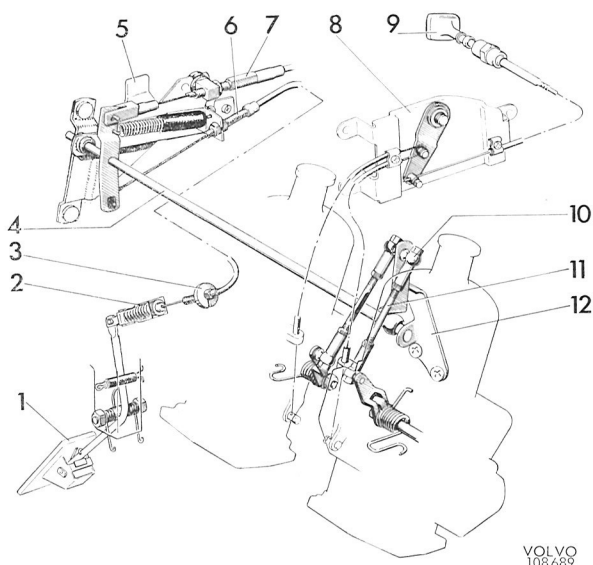
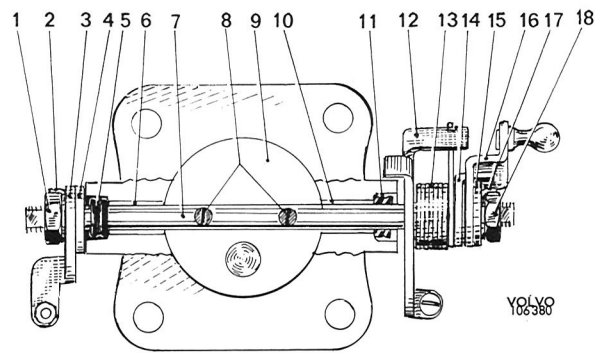

Fig. 2-129. Throttle and choke control linkage, left-hand steered vehicle
Fig. 2-132. Throttle spindle
Vehicles intended for Canada have the lever 16, Fig. 2-132, rigidly connected to the throttle shaft. Adjust the links so that the throttle is closed when the throttle shaft lever is touching the bracket 12, Fig. 2-129.
16. Check that the cable (Fig. 2-129) is well-stretched and if necessary adjust with the cable sleeve adjustment (6).